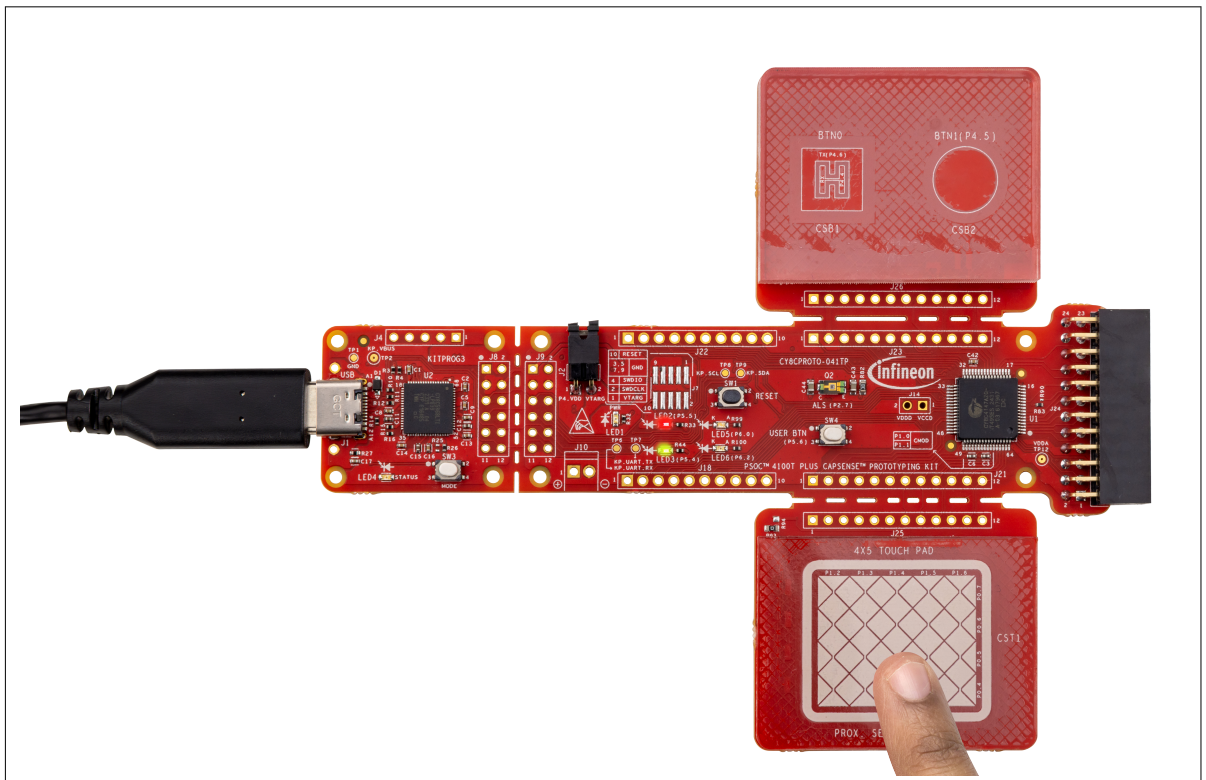

Figure 9 Capacitive touchpad operation with LED indication
3. Touch the touchpad with your finger and observe that LED2 (red) and LED3 (green) turn on, as shown in Figure 9. The brightness of the LEDs will vary based on the touch position. Move your finger along the touchpad to observe this variation